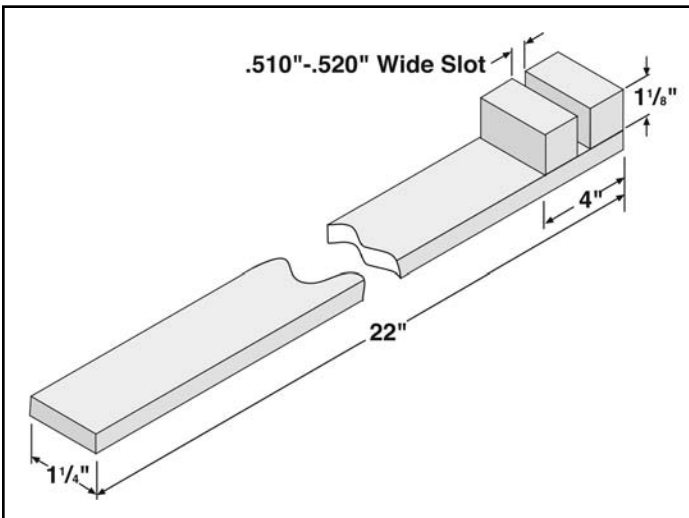

Figure 3
- S&S® Rod Checking Pin, part 53-0002, was designed to help perform this procedure. It may also be necessary, to fabricate a rod bending tool as illustrated in **Figure 3.**